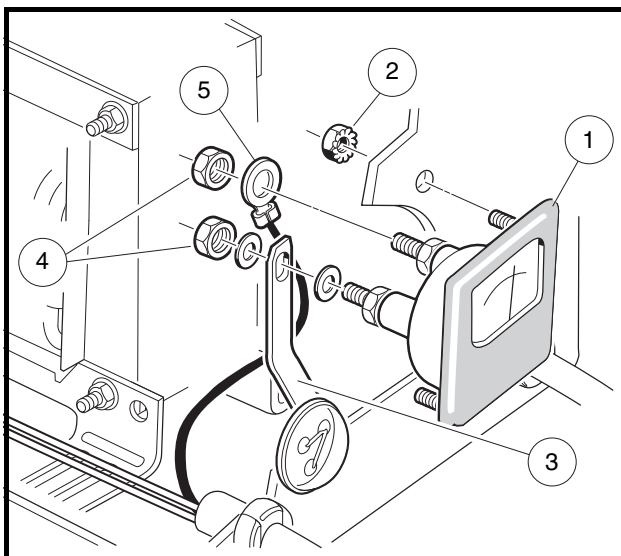

Figure 8-18 Ammeter
3. Disconnect the black wire from the DC cord (5), and the buss bar (3) from the ammeter (**Figure 8-18, Page 8-26**).
4. Remove the two nuts (2) that secure the ammeter to the charger face.
1. Place the ammeter in position in the charger face (**Figure 8-18, Page 8-26**).
2. Install nuts (2) and tighten until ammeter is firmly secured.
3. Connect the black wire of the DC cord (5) to the left (as viewed from inside the charger) post of the ammeter.
4. Connect the buss bar (3) from the fuse link to the right post of the ammeter. Place flat washers on both sides of the buss bar.
5. Thread nuts (4) onto both posts of ammeter until just past finger tight. While holding the inside nut, tighten the outside nut (4) 1/4 turn. **See following CAUTION.**
3. Remove both black secondary coil transformer wires and the buss bar from the back of the fuse link assembly (**Figure 8-18, Page 8-26**).
2. Install the buss bar (3) over the center branch of the fuse assembly and ammeter post (**Figure 8-18, Page 8-26**). Tighten to 22 in-lb (2.5 N·m).